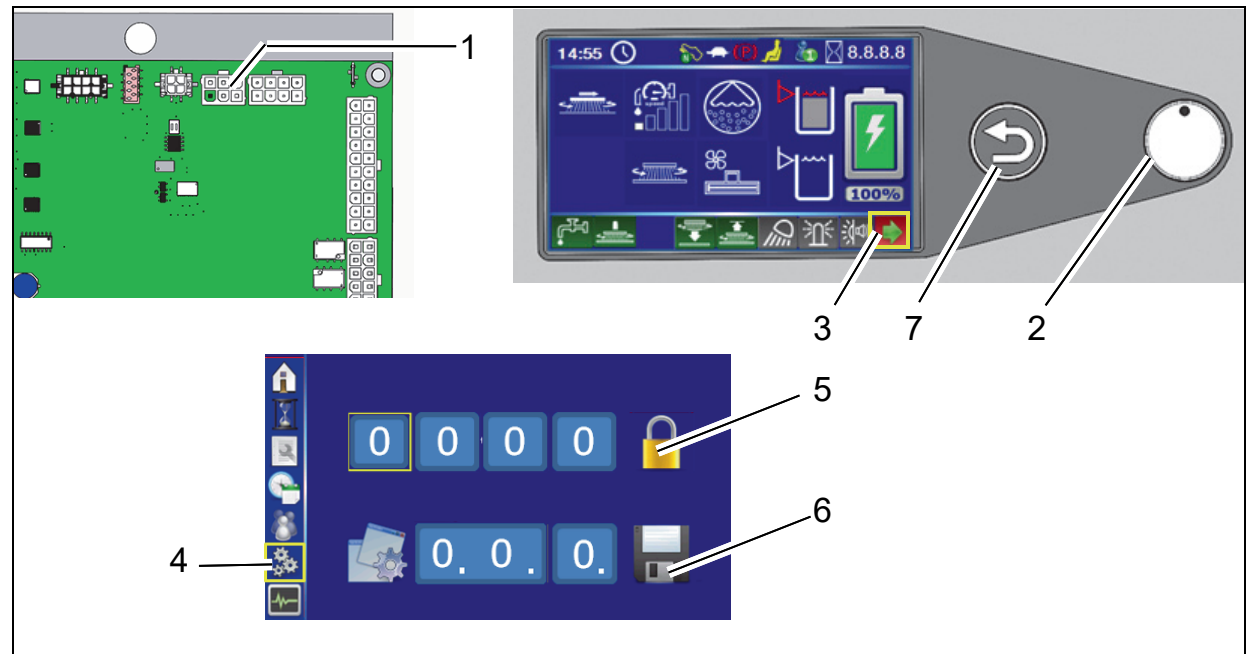

Fig. 7
Plug diagnosis plug into slot X20 of controller A1 (Fig. 7/1).
2. Select the arrow soft key (Fig. 7/3) on the control panel using the turn-push knob (Fig. 7/2) and press to access the sub-menu.
3. Select the configuration menu in the sub-menu (Fig. 7/4).
4. Enter the 4-digit code in the configuration menu at the top (Fig. 7/5):
5. In the configuration menu at the bottom (Fig. 7/6), set the value of the option and save by pressing the turn-push knob. After confirming the last digit, *OK?* appears. Press the turn-push knob again to save the value. Saved value is displayed in green.
If the value is not to be saved, exit menu using the return key (Fig. 7/7).